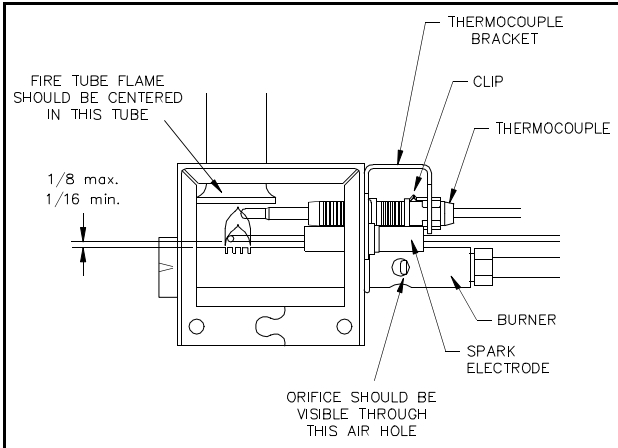

Figure 8 - Burner Assembly
- * Check thermocouple position in flame. Refer to Figure 8. The Thermocouple should be seated securely in its bracket with the sensing end extended over the flame, as shown. Lack of proper Thermocouple position can cause flame blowout symptoms or failure to hold the flame when trying to ignite the burner.
1. If the piezo lighter does not supply sparks to the burner when depressed, check for correct adjustment of the electrode. It should be 1/8" max., 1/16" min. above the burner. See Figure 8.